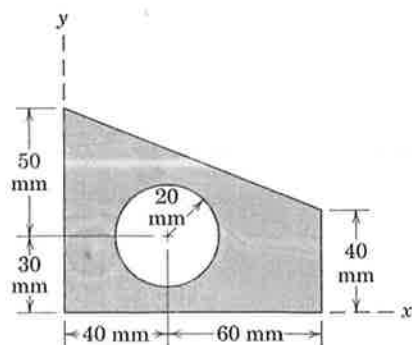

Figure 4. b
c) Calculate the moment of inertia of the shaded area about the x-axis as shown in figure 4.c 08